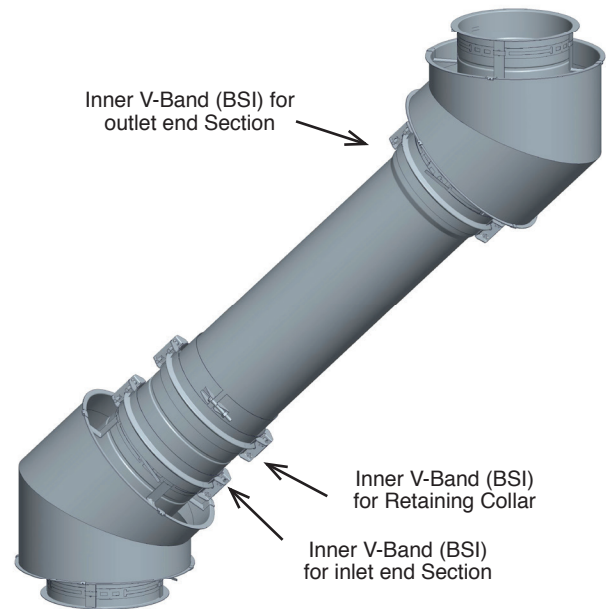

Figure 27 - Step 10-11 - Secure the Retaining Flanged Band
11. Then install the other V-band (BSI) over these flanges (like regular section joint assembly). See **Figure 27**.